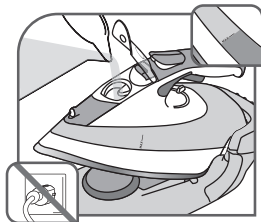

Fig.5
- Open the tank filling flap and fill the tank up to "MAX" – fig.5.